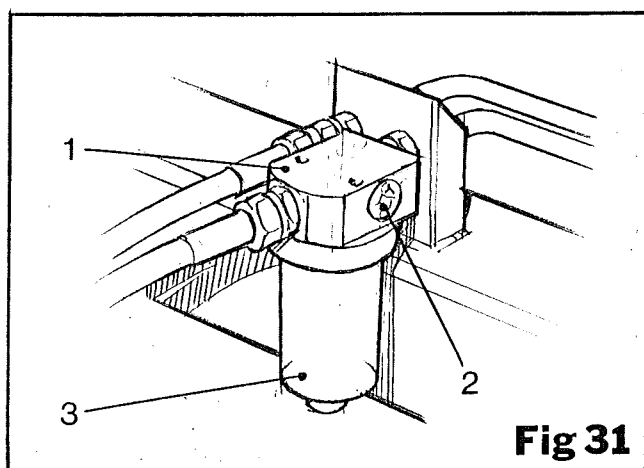
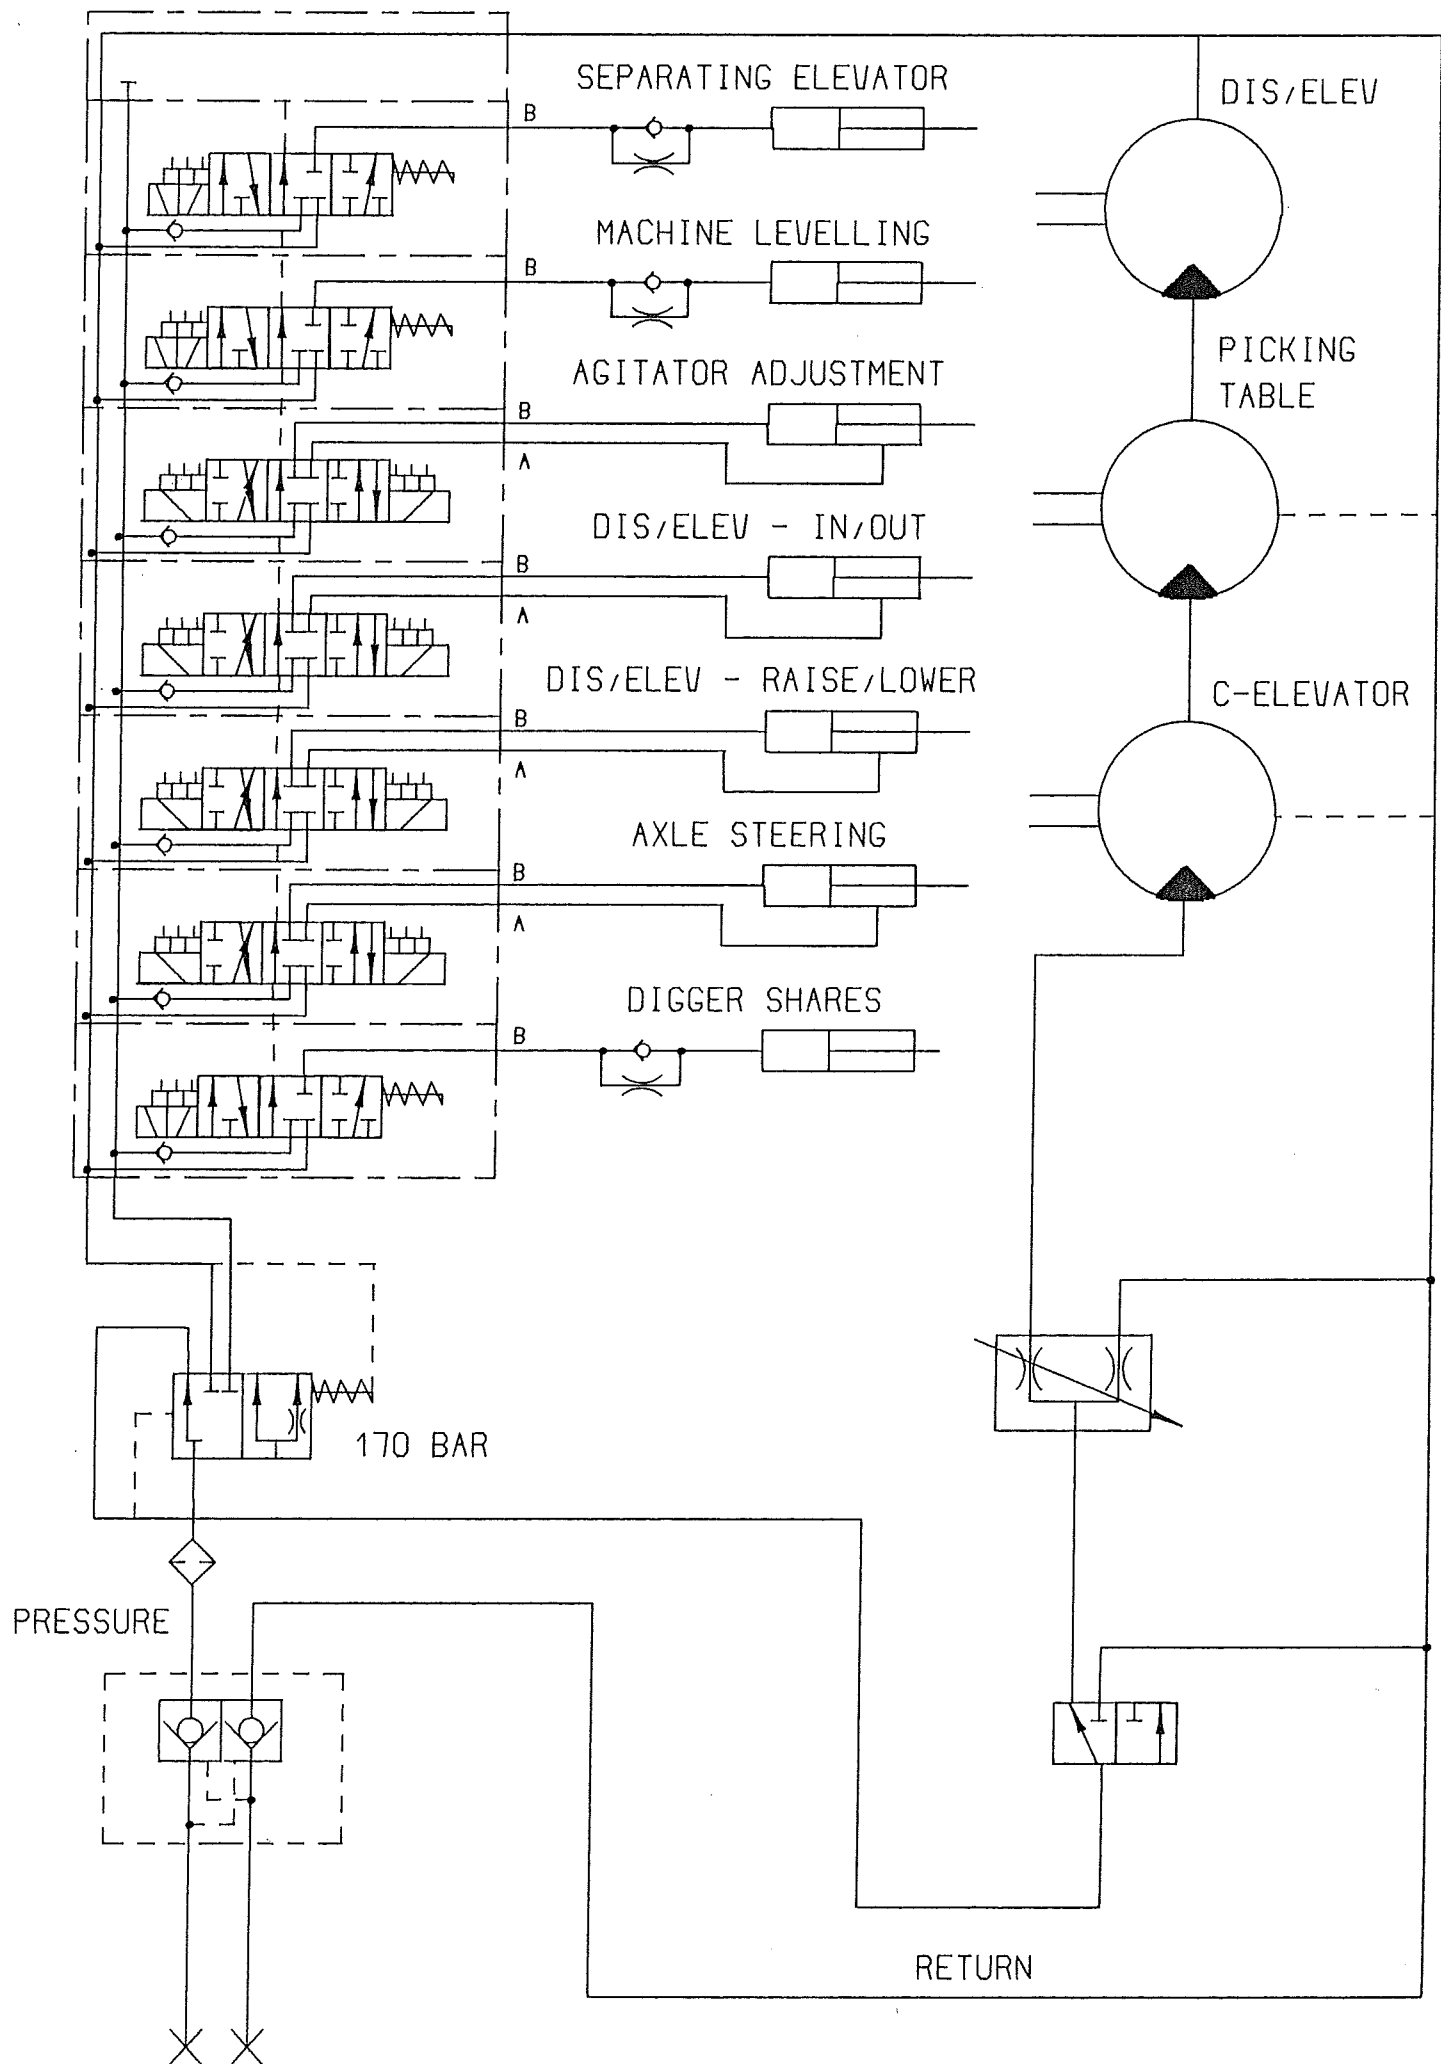

Fig 31
Fig 35
The hydraulic oil to operate the various functions of the Statesman can either be supplied direct from the tractor or from an optional Power Pack which can be fitted to the harvester (see separate section for Power Pack). A schematic hydraulic layout is shown in Fig 35 depicting the main items of the hydraulic system. Control for the hydraulic system is provided electrically from the tractor cab and is described separately. The only item requiring any maintenance is the pressure line filter (item 1, fig 31). When the indicator (item 2, fig 31) is pointing to the red segment then the element (item 3, fig 31) will need replacing. To replace the element simply unscrew it from the bottom of the filter assembly.